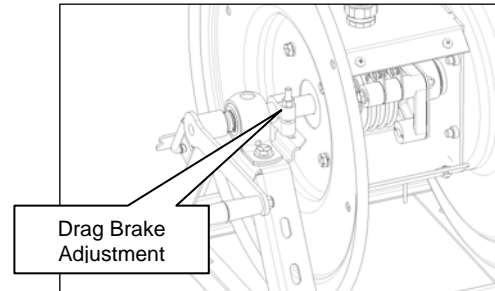

Figure 4 – Hand Crank Models Only
- Adjust drag brake (Hand crank models only). Turn clockwise to increase tension and counter-clockwise to decrease tension. See **Figure 4**.